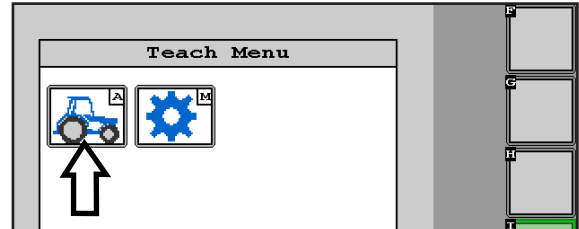

Fig. 8: Accessing the vehicle code menu
Tap the tractor symbol (A) in the Teach menu (see Fig. 8) to open the vehicle code menu.